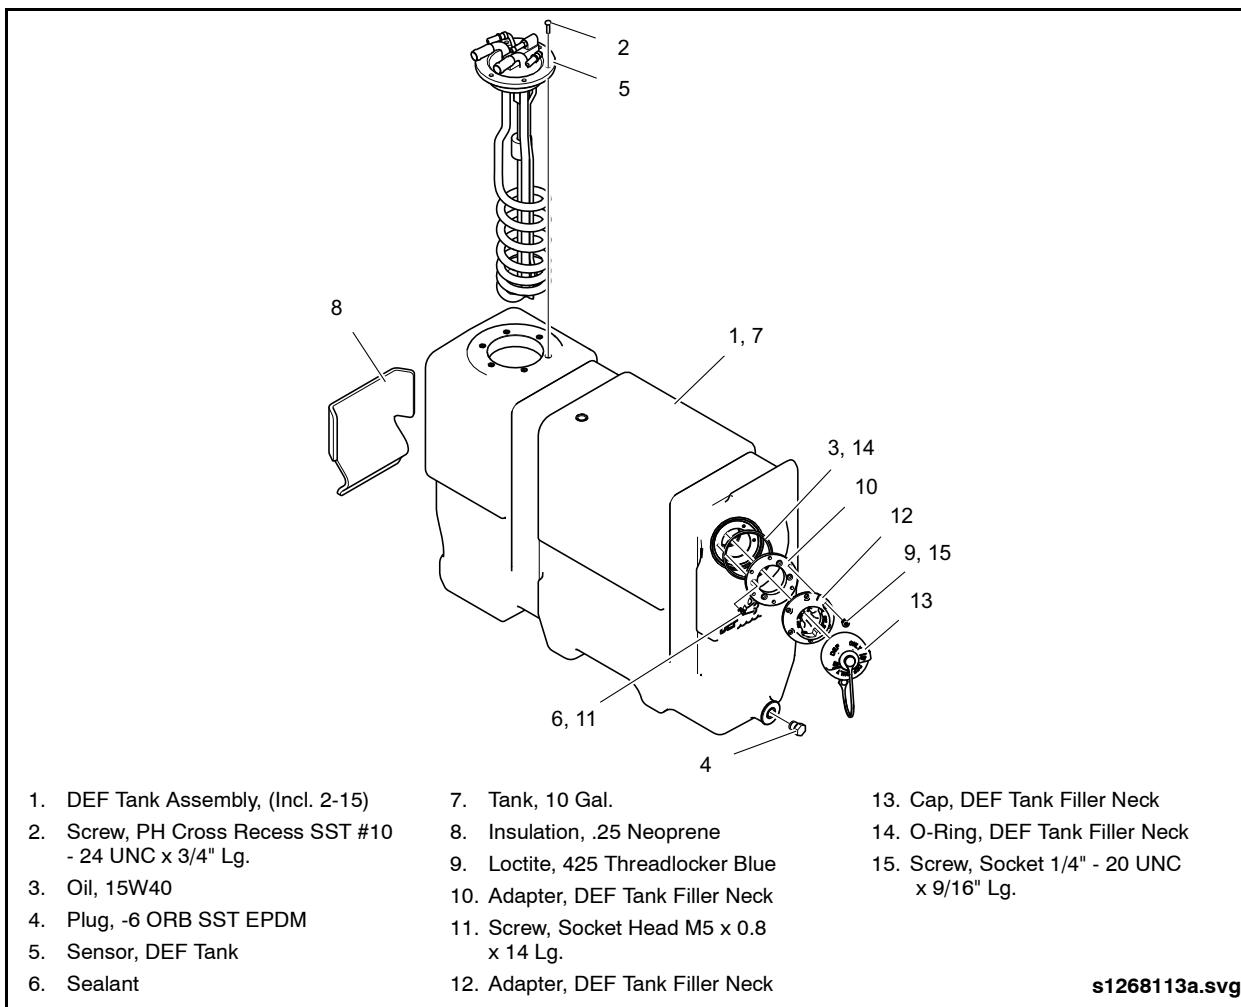

Fig. 4-23: DEF Tank Assembly
4. Pull the MFHU out of the tank until the inlet filter approaches the opening in the tank. Angle the MFHU and fold the filter element upwards. Continue to carefully remove the MFHU until completely free of the tank bore. See "Fig. 4-23: DEF Tank Assembly" on page 39.